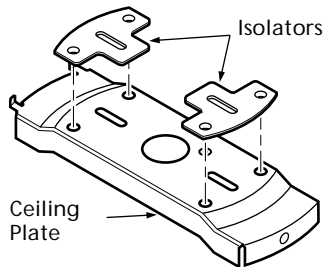

Figure 3a - Adding Isolators to Ceiling Plate
3. Your fan comes with two neoprene noise isolators. Position the isolators between the ceiling plate and ceiling by inserting the raised areas on each isolator into the holes in the ceiling plate. Refer to Figure 3a.